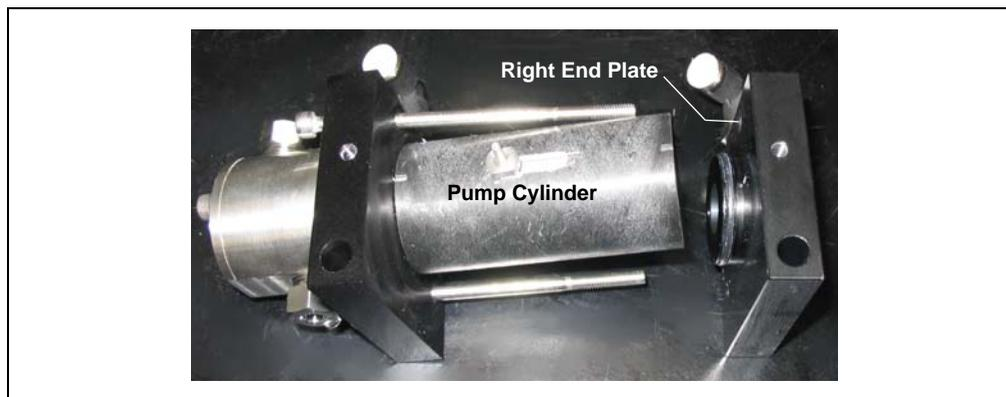

Figure 5-12. Removing the Pump Right End Plate
3. Remove the right end plate from the pump cylinder (see Figure 5-12).